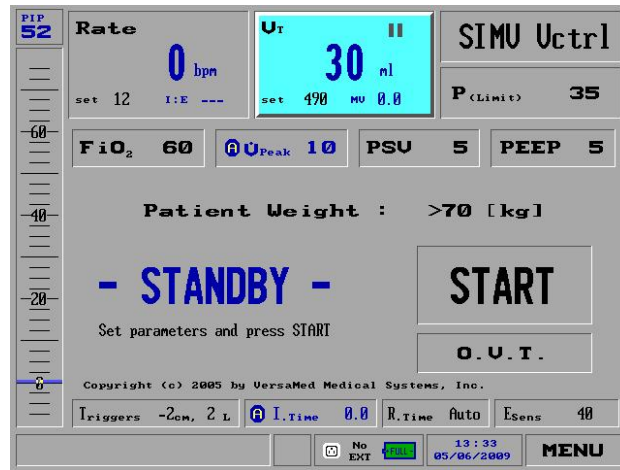

Figure 38: Tidal Volume Selected on the Main Screen
1. Select the **Tidal Volume** (or in **Pressure Control** select **Volume Limit**) setting from the top middle section of the **Main** screen (Figure 38):